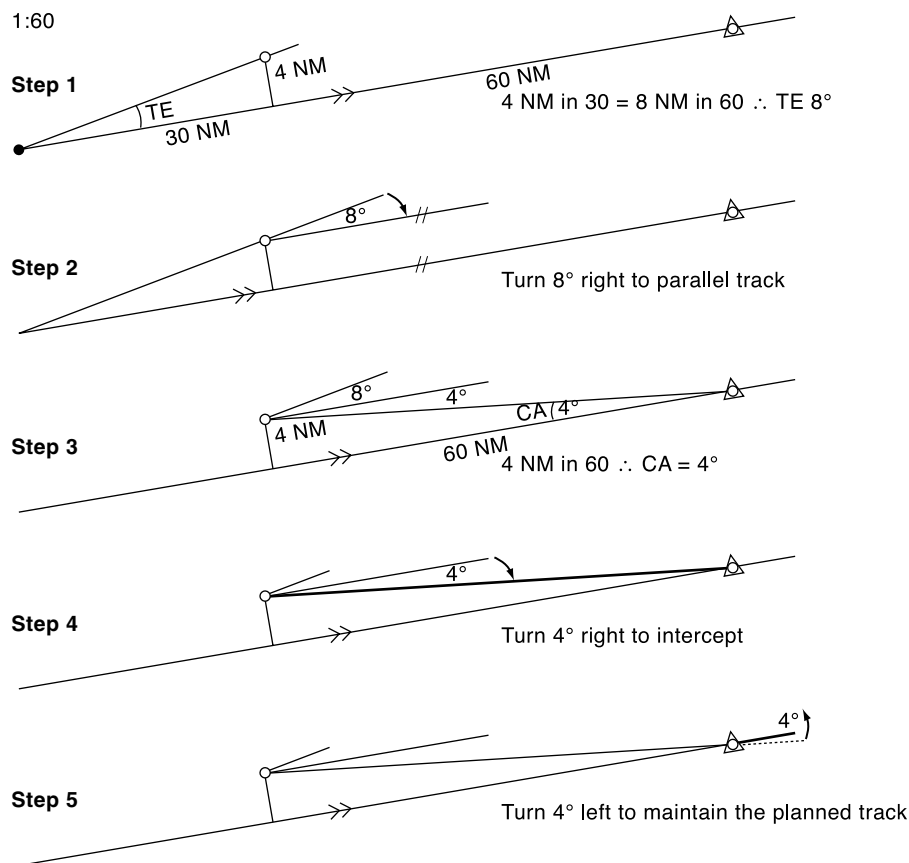

Figure 49-6 Various methods of revising heading.
In each of the three methods shown in figure 49-6, the same result from a known tracking error (TE) and a calculated closing angle (CA) is obtained—a turn of 12° to the right. Having regained course, turn 4° left to maintain it. Your aim should be to stay within 3 nautical miles of the flight-planned course at all times.